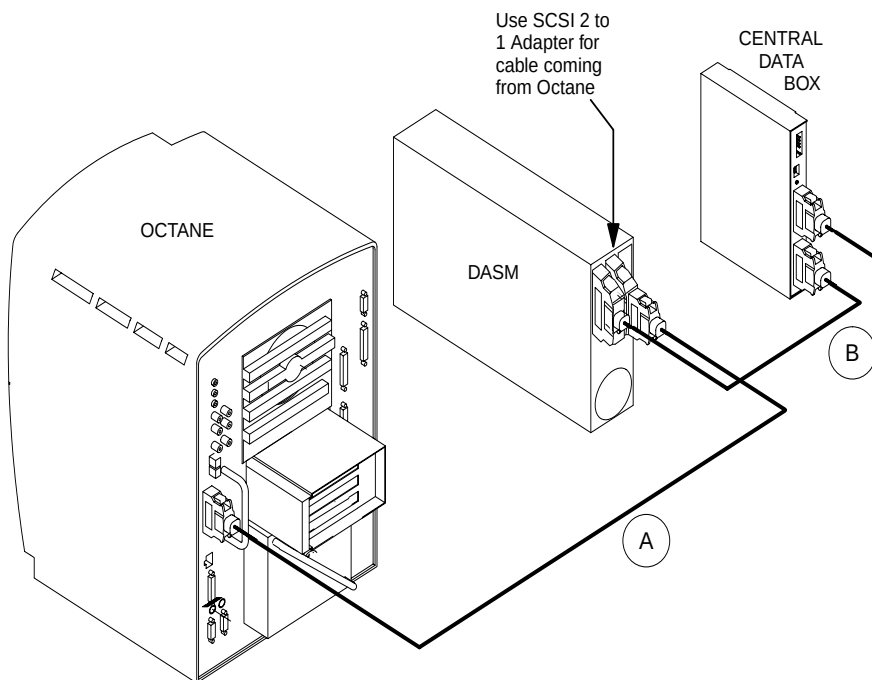

Figure 1-4 SCSI Cable Configuration with DASM
SCSI 1 adapter (2209910). Refer to Figure 1-4.
- 8.) Attach SCSI cable B (2110495-2) between the Central Data Box and DASM, as shown in Figure 1-4.